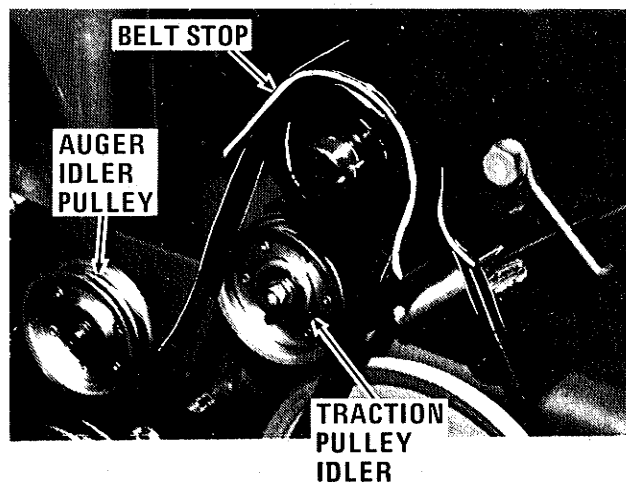

Figure 14.
1. Remove the belt shields on the left side of the unit. Engage both the auger and transmission drive belts. Loosen hardware and adjust the large one-piece belt stop on the engine to gain approximately 1/8" clearance between the belts and the belt stop with belt engaged. Secure the belt stop hardware. See Figure 14.